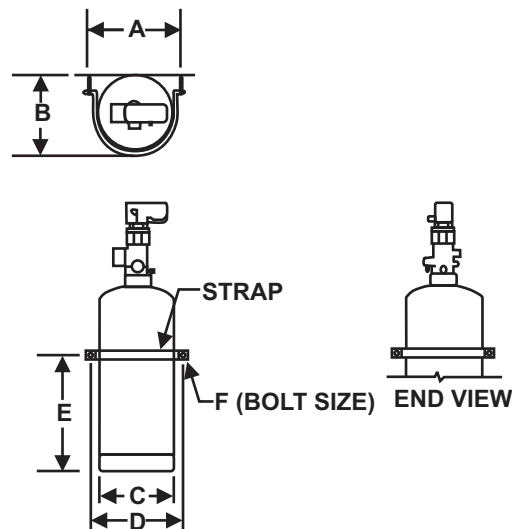

Figure 4-11. Single Cylinder Installation, Vertical Mounting (See Table 4-11)
1. Position HFC-227ea cylinder in designated location and secure in place with cylinder strap and attaching hardware (see Figure 4-11 and Table 4-11, through Table 4-12). Orient cylinder with valve outlet angled toward system piping.